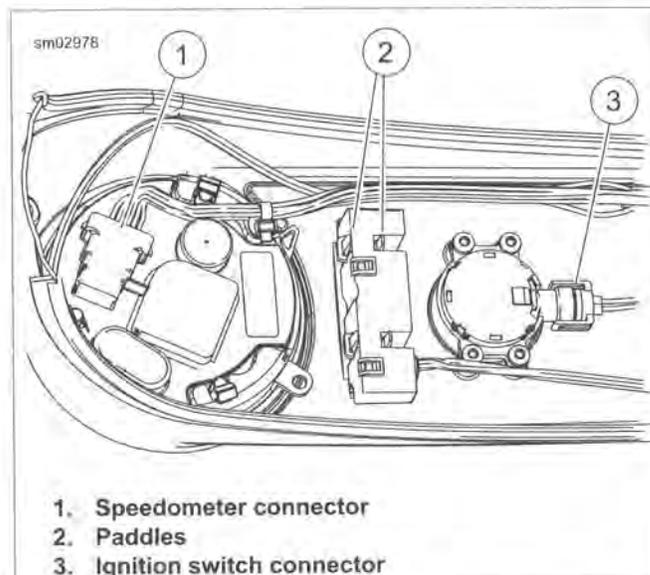

Figure 7-82. Release Paddles to Free Indicator Lamp Assembly (FLHR/C)
4. See Figure 7-82. Disconnect ignition switch connector (3) and speedometer connector (1).
- b. Squeeze front and rear paddles (2) on same side of assembly while rotating screwdriver.